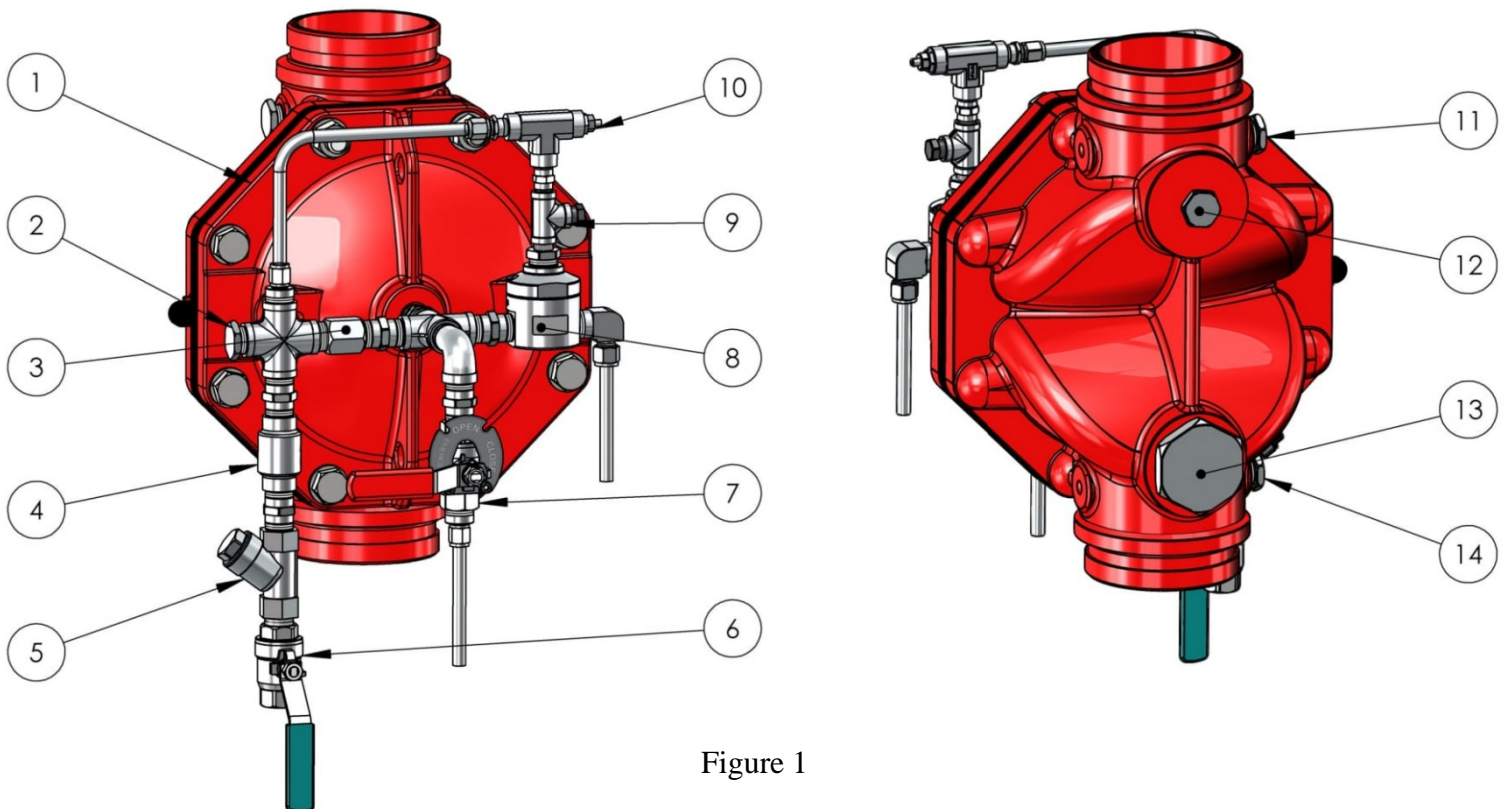

Figure 1
Operation (reference drawing – figure 1)
1. This system is supplied pre-assembled and factory pre-adjusted (apart of needle valve 10 figure 1). Any change carried out at the system's trim components adjustments or order, pipe and tubes length or ports for axillary connection sizes, will affect the system operation and therefore, prohibited.
5. Open the trim pressure supply valve (1). Let water flow out of the inspector's valve until a clear flow, free of air bubbles is observed.
7. Unscrew and remove the FDV's downstream drain Plug (12 figure 1).
8. Open gradually the upstream butterfly isolation valves (12) and make sure that there is no leak out of downstream drain port. A dripping might indicate a FDV valve sealing issue. (see Troubleshooting chapter in FDV's basic valves datasheet & IOM bulletin)
9. Do not re-install the downstream drain plug (11 figure 1) and leave this port open.
- Make the deluge downstream drain port plug (12 figure 1) was removed.
4. Drain condensed water by removing temporary the downstream drain plug (12 figure 1). In case a constant dripping or leakage is observed, it might indicate a deluge valve sealing problem.